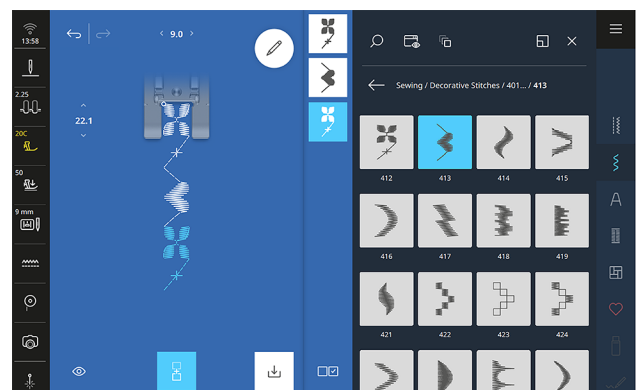

Fig. 19
4. Now touch and drag (to the left) to remove the final heart stitch from the combination (Fig. 19).